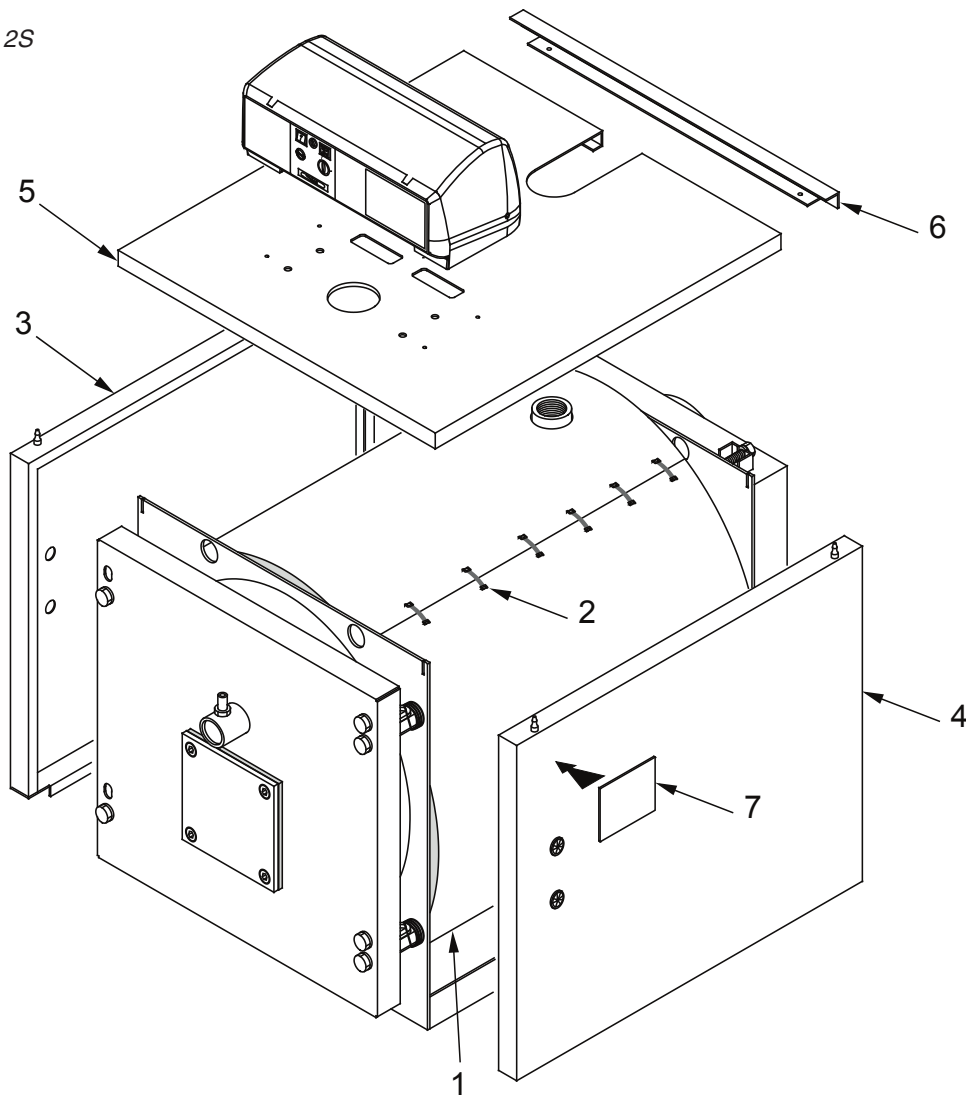
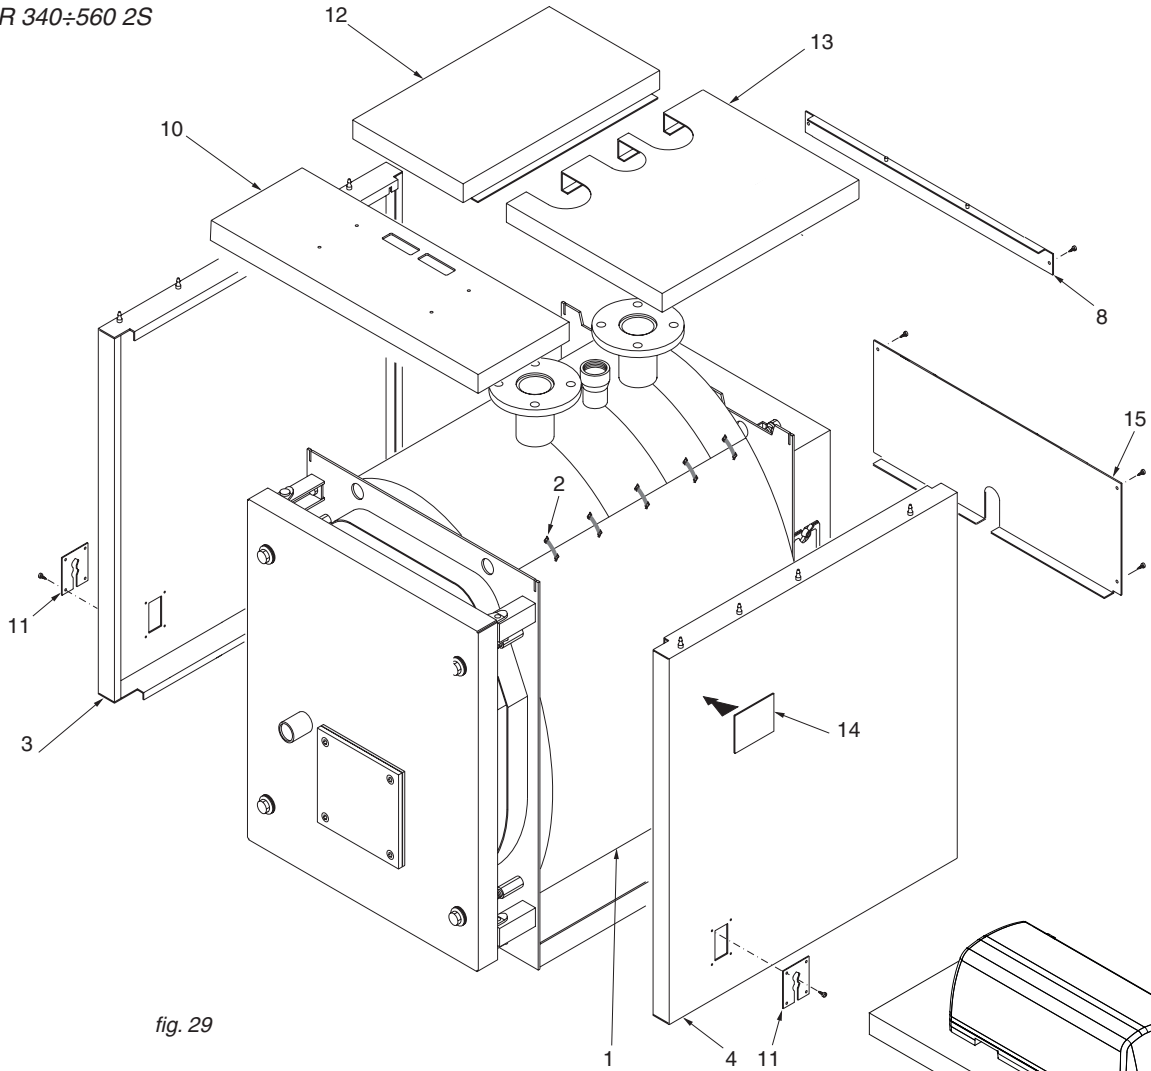

fig. 27
fig. 29
**N.B.:** For models from **TST 80 2S** to **TST 250 2S** (ref. fig. 27 and 28) and from **TST 300 2S** to **TST 450 2S** (ref. fig. 29 and 30), the casing and insulation are contained in 1 marked box:
**N.B.:** For the **TST 560 2S** model (ref. fig. 29 and 30) and for models from **TST 680 2S** to **TST 870** (ref. fig. 31 and 30), and from **TST 1000 2S** to **TST 2000 2S** (ref. fig. 32 and 35), the casing and insulation are contained in 3 marked boxes:
### Assembly sequence (Ref. fig. 27 and 28)
### Assembly sequence (Ref. fig. 29)